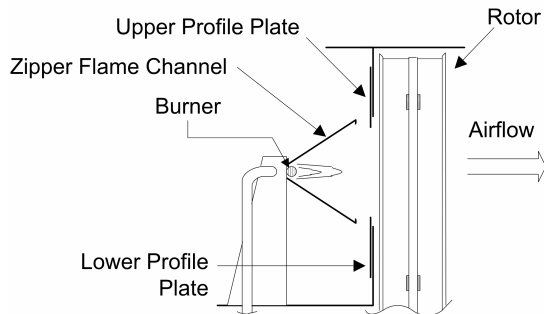

Figure 6 - Burner Assembly
- Refine pilot setting for a hard blue flame by adjusting the gas flow through the pilot orifice and/or pilot regulator. Any thin spots or gaps indicate uneven air velocity over the burner which must be corrected. Adjust the profile plate located on the inlet side of the burner (See Figure 6), together with the Reactivation Outlet Damper to achieve the correct burner differential pressure (inches w.c.) and correct Reactivation static pressure as indicated on the unit's pressure gauges. Shut off unit then start it again. The burner should light quickly after the pre-purge time delay.